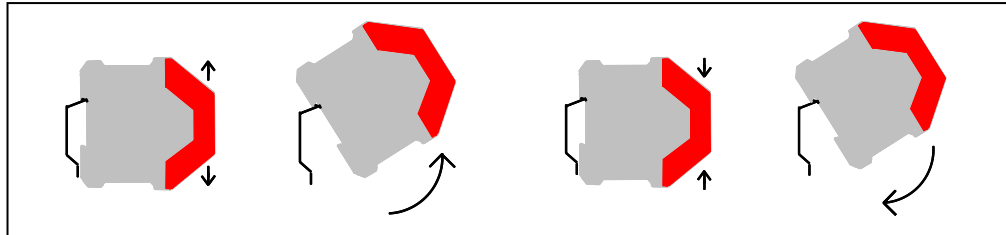

Figure 4: DIN Rail Mounting Detail
6. Mount new device to the DIN rail (see Page 8, Figure 4).